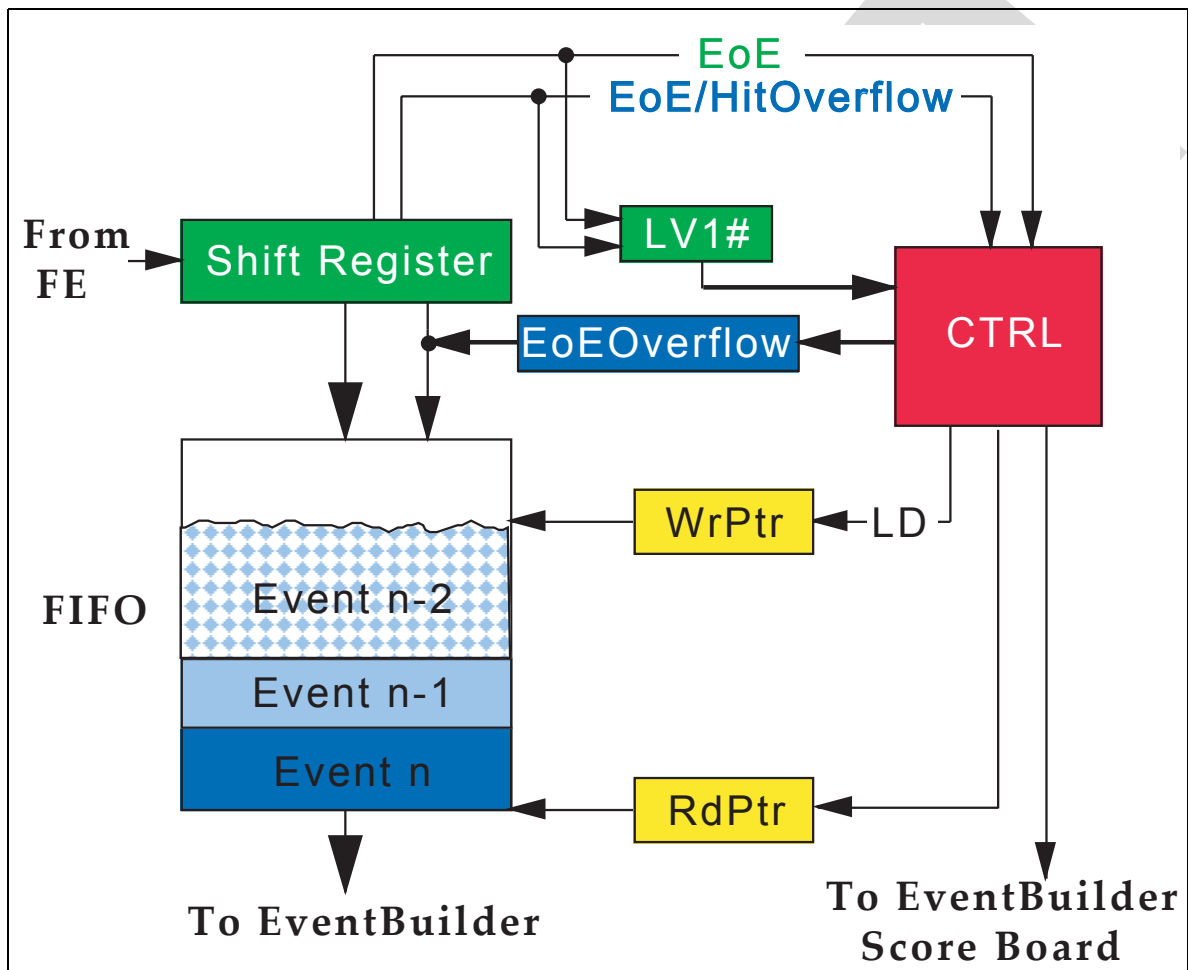

Figure 1-2 Event R/O by MCC: Front-End Receiver and input FIFO.
- Fig. 1-2** *p. 3* Event R/O by *MCC*: Front-End Receiver and input FIFO.
The block diagram of Figure 1-2 is an expanded view of one of the sixteen FIFO's present in the
As can be seen in Figure 1-2 the FIFO has two different pointers, one write pointer (WrPtr) and a read pointer (RdPtr).